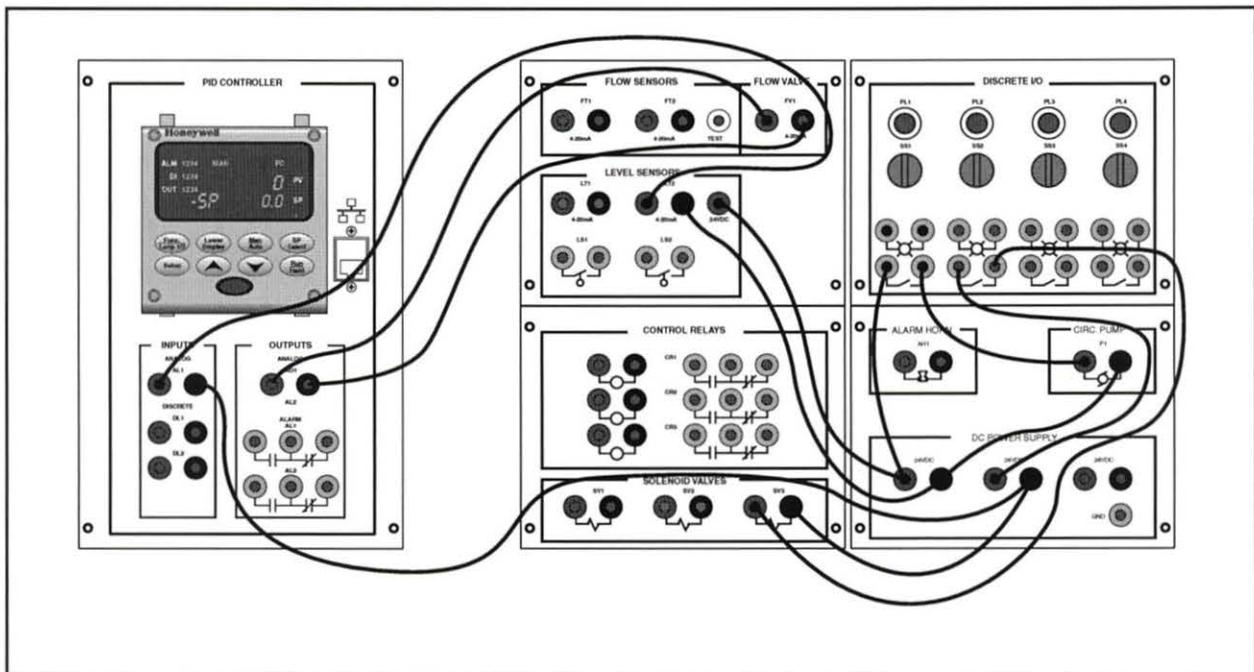

Figure 39. Level Control Circuit
□ 5. Connect the circuit shown in figure 39.